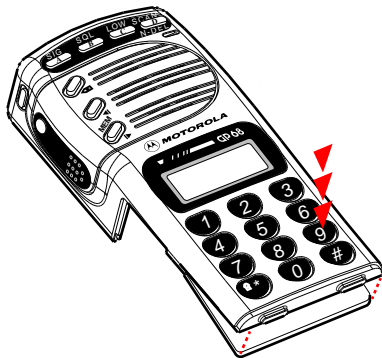

Figure 1-7 Remove Display Board
2. Turn the housing so that the front panel buttons faces upwards (Figure 1-7).
3. Gently tap the housing to dislodge the display board (Figure 1-7).